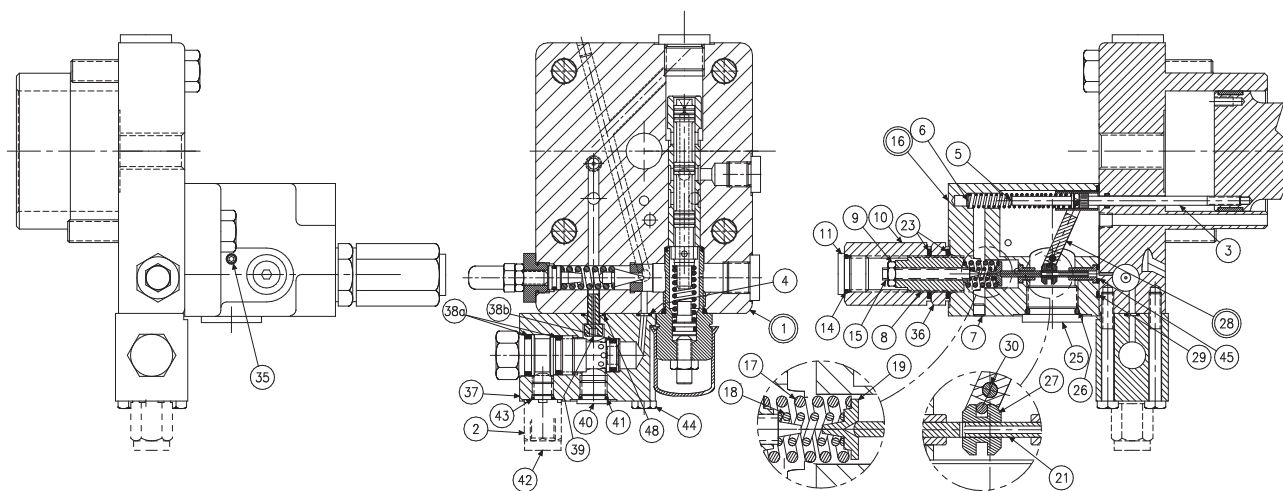

FIGURE 13
PARTS LIST FOR FIGURE 13
1. **See Figure 13.** Remove 2 screws holding torque limiter body (16) to cap assembly (1).
2. Remove all parts from torque limiter body (16) except pin (30) and arm assembly (28). It is not necessary to remove these parts unless broken or worn. Examine parts for wear or damage.
3. Remove screw (3). Examine head for excessive wear, and body for smooth sealing surface with O-ring.
5. Remove modulating valve (38) from body (37). Remove body (37) from cap assembly (1) Note plug (40) must be removed to remove special screw (39). Remove cap assembly (1).
2. Press seat (10) into bore squarely against shoulder in bore.
3. Install plug (12) and spool (18) into bore as shown. Install spring (11) over end of spool. Install O-ring (6) on seal piston (16). Lubricate and install into plug (15). Install plug (15) into cap. Install screw (3), nut (4) and cover (17).
4. Install O-ring (6) on seal piston (5).
5. Lubricate O-ring and install cone (8), spring (7) and seal piston into bore in cap (1), being careful that cone enters seat (10). Install remaining parts in body (1)
8. **See Figure 13.** Install block (37) on cap (1) with O-rings (4) and (48). Use special screw (39) through the block.